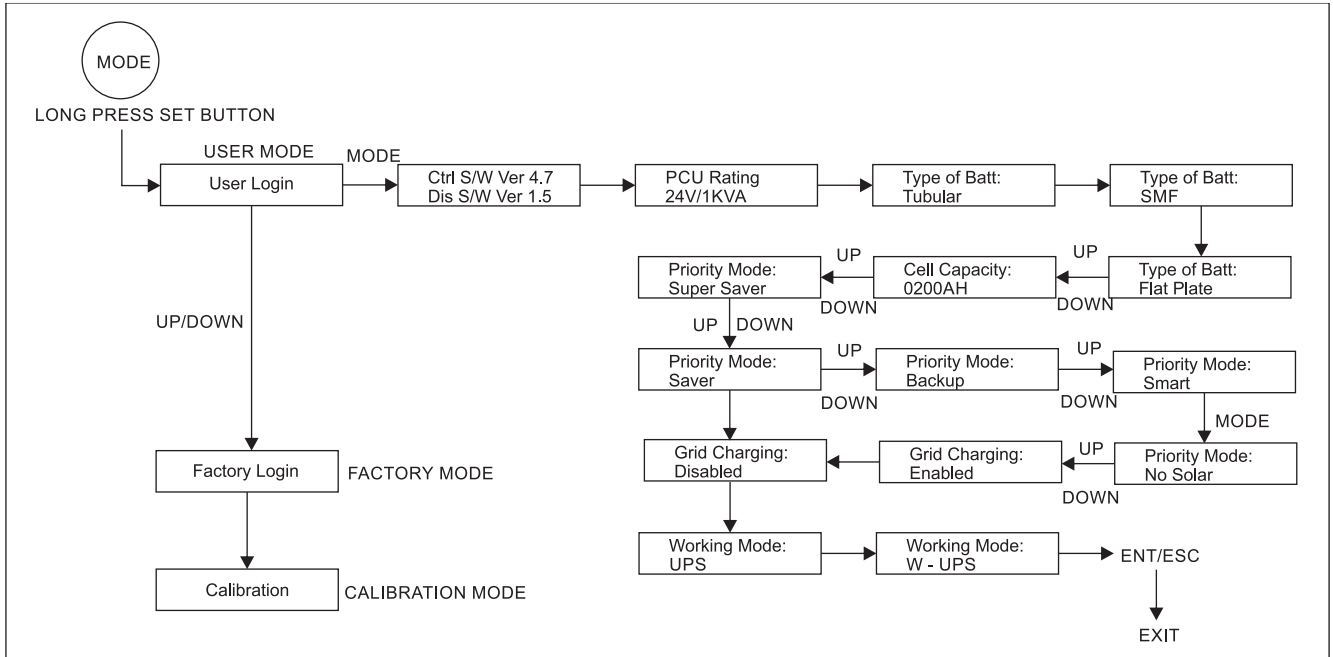

Figure 8
- ✓ Press SET/INC/DEC key to select your battery type, Priority mode, Battery AH, working mode, Grid charging Enabled/Disabled as per figure 8.